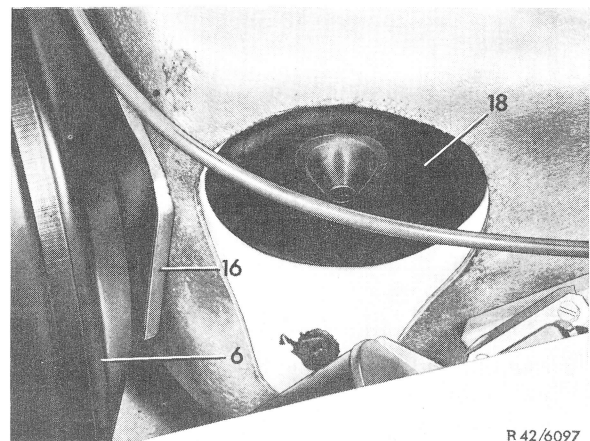

Fig. 2
- 4 Remove rubber cover (18) on front end and unscrew hex. nut (9) (Fig. 2 and 3).